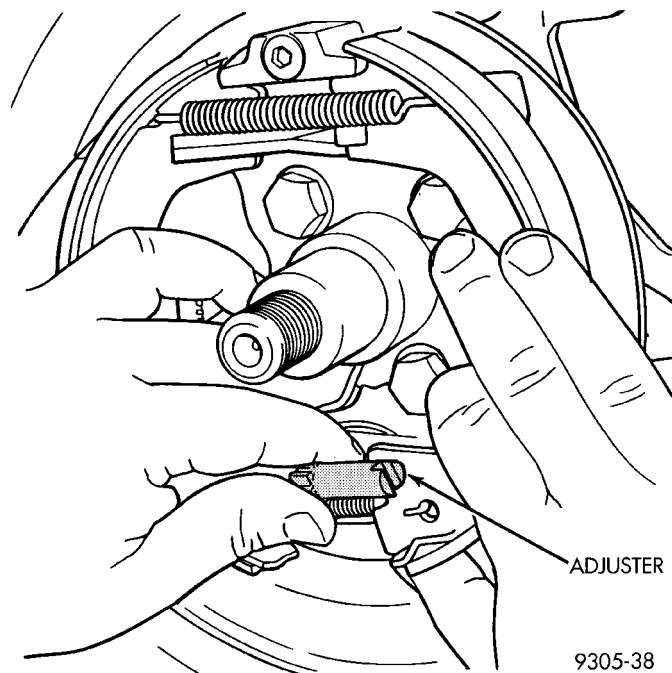

Fig. 159 Park Brake Shoe Adjuster Assembly
(8) Remove adjuster assembly from the parking brake shoe assemblies (Fig. 159).
(5) Install brake shoe adjuster assembly with star wheel rearward (Fig. 159).